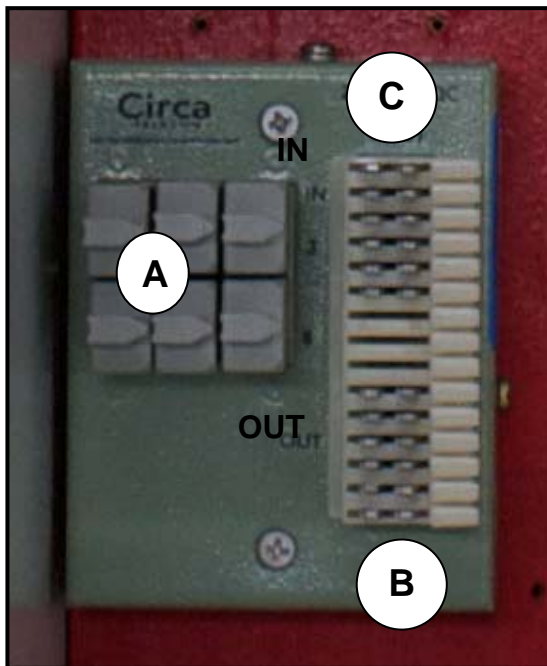

Fig. 17: 6-pair 66-type punch block with pass-through modules for quick disconnect
- 3.5.2 Punch the incoming pairs to the “OUT” side of the 6-pair 66-type terminal. This terminal is intentionally ungrounded. Using the 48” connection cables provided with the assembly, punch the appropriate pairs of the connection cable to the “IN” side of the 6-pair 66-type terminal block. See Figure 17.